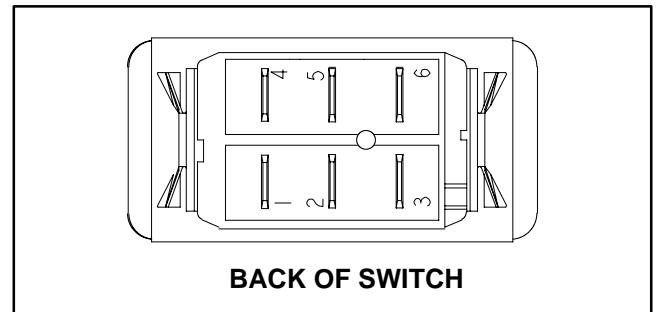

Figure 30
5. With the use of a multimeter (ohms setting), the switch functions may be tested to determine whether continuity exists between the various terminals for each position. The switch terminals are marked as shown in Figure 30. The circuitry of the flow divider and cooling fan switch is shown in the chart below. Verify continuity between switch terminals.